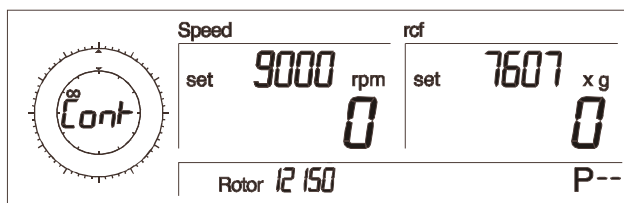

Fig. 5.13: Continuous run display
- Starting with the time setting 11:59, turn the knob clockwise to the next setting. The message "cont" and the symbol " $\infty$ " will be displayed (Fig. 5.13).